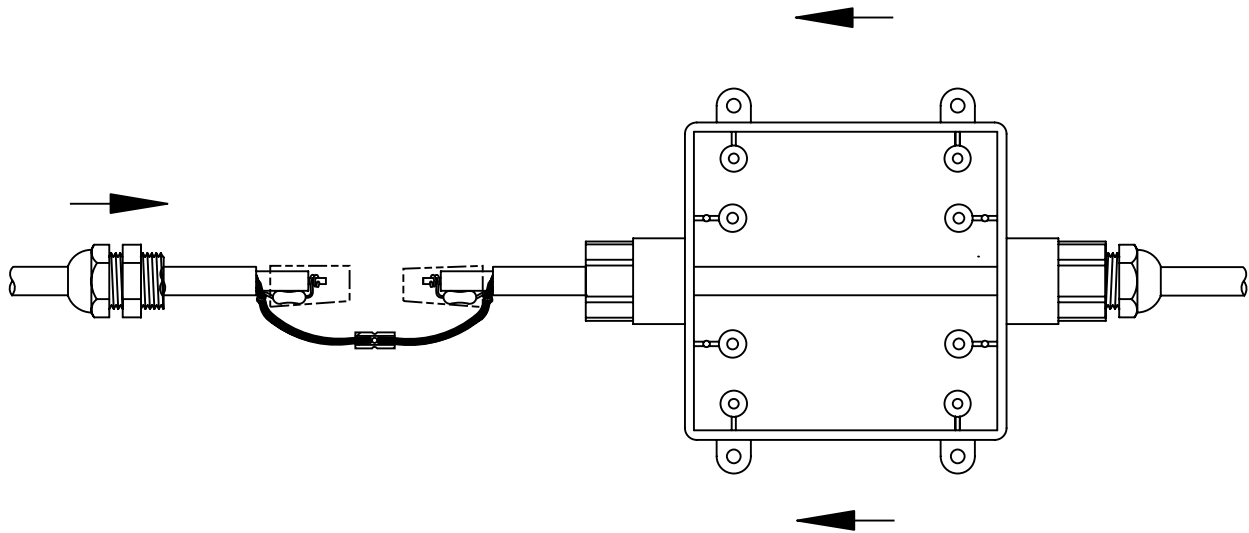

Figure 6.24 – Positioning Housing and Strain Relief for MTI
- **Step 7:** Slide the housing over the splice. Slide the strain relief up and screw it into the enclosure and tighten. Center the splice inside the box and tighten the strain reliefs. Insure that the connections are not shorted inside the box. See Figure 6.24.